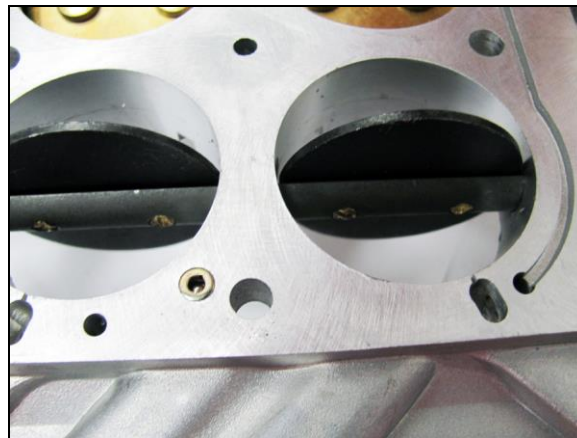

Figure 5
7. With the screws removed, **MARK** each plate, so that they will be placed back into each respective bore. After marking and removing the throttle plates, inspect the throttle shaft where the filing was done and check for any burrs. Address with file, if any burrs are present. It must be **COMPLETELY SMOOTH** (Figure 5). Once this is accomplished, you may then remove the duct tape. Afterwards, blow off the throttle body with compressed air to remove any metal filings and chips.